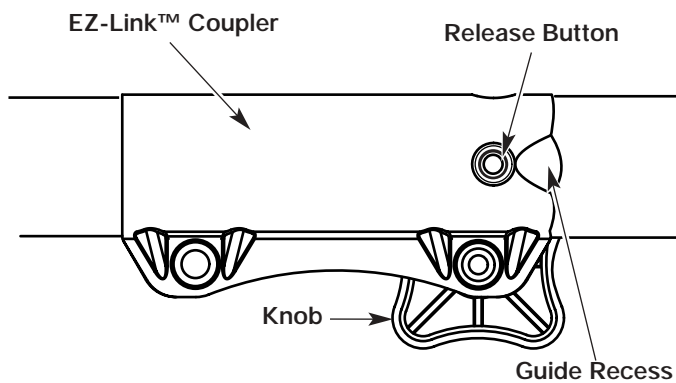

Figure 19
1. Turn the knob counterclockwise to loosen. See Figure 19.
2. Press and hold the release button. See Figure 19.
NOTE: Aligning the release button with the guide recess will help installation. See Figure 19.